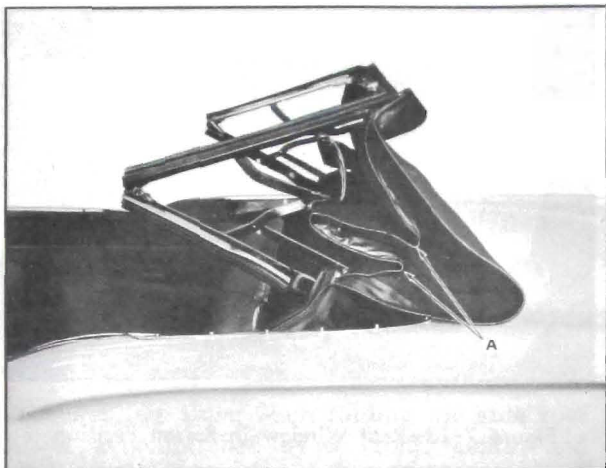

Figure 7-7—Pull Padding From Between Arms
4. Actuate power top control switch until front top rail is approximately two feet from full down position (Figure 7-7).
5. On right and left side of body, pull top material and padding "A" from between operating arms of top (Figure 7-7).
6. Operate top control switch until top is approximately six (6) inches from full down